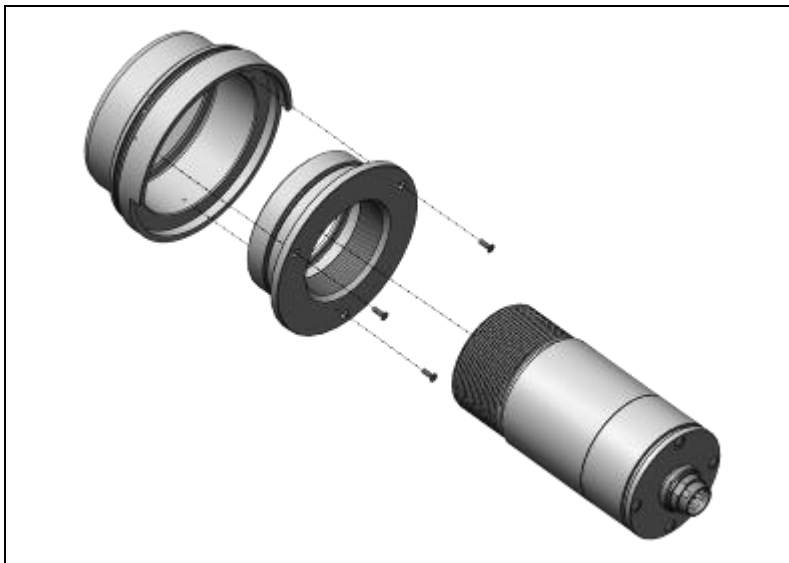

Figure 20: Assembling of the CTlaser, CSlaser, CTvideo, CSvideo
1. Screw the infrared thermometer in the thread (M48x1.5) of the front part (see **Figure 20**) and seat the front part in the chassis (**Figure 28**).